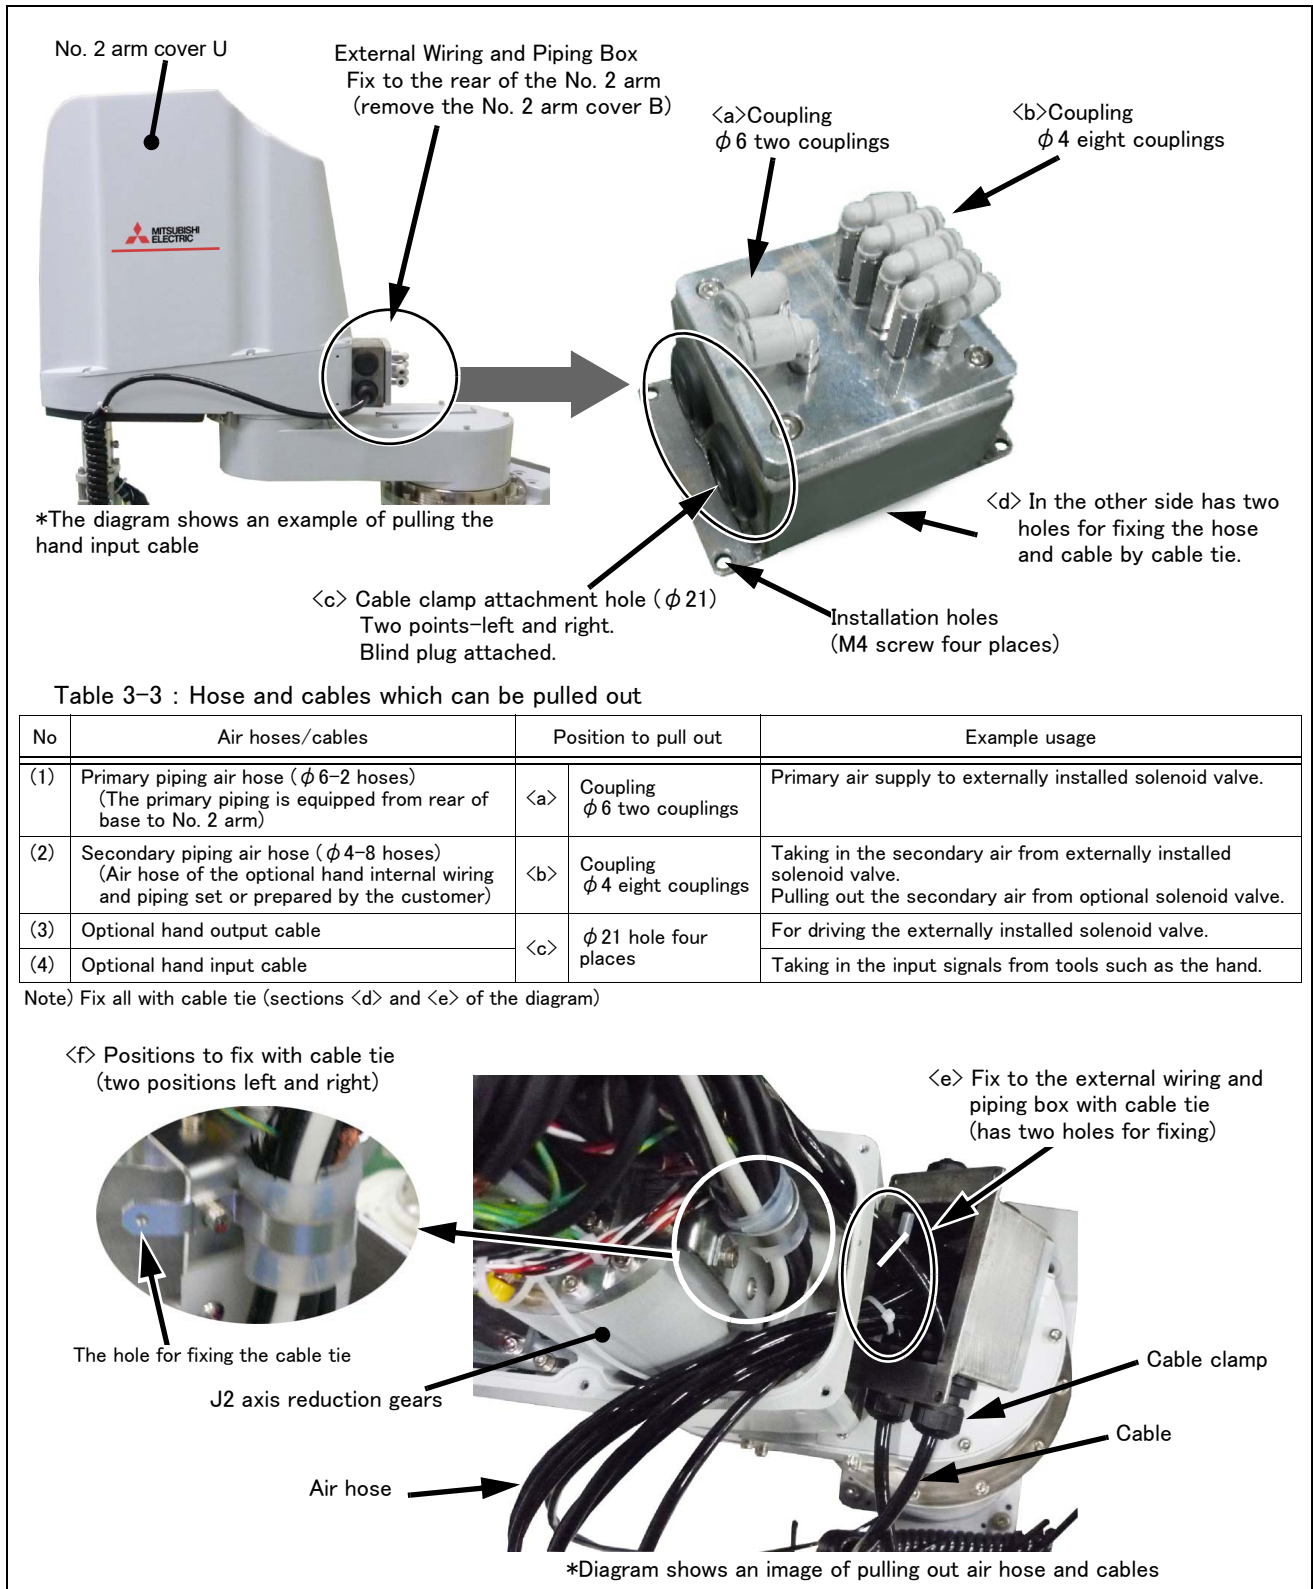

Fig.3-6 : External Wiring and Piping Box
Fig. 3-6 shows the installation procedure for the external wiring and piping box. Remove the No. 2 arm cover B and install this option using the same screw holes. The installation procedure is shown below.
- 4) Fix the air hoses and cables to the hole inside of this box by using the attached cable tie. (section <e> of Fig. 3-6)
Fix the hoses and cables to the hole shown in section <f> of Fig. 3-6 using cable tie. There are 2 holes, located left and right.